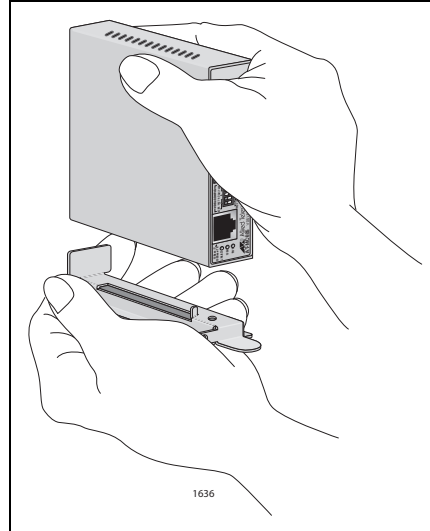

Figure 15. Rack Mount - Set on Slider
2. Attach the unit to one of the sliders that holds the unit in the chassis, as shown in Figure 15.